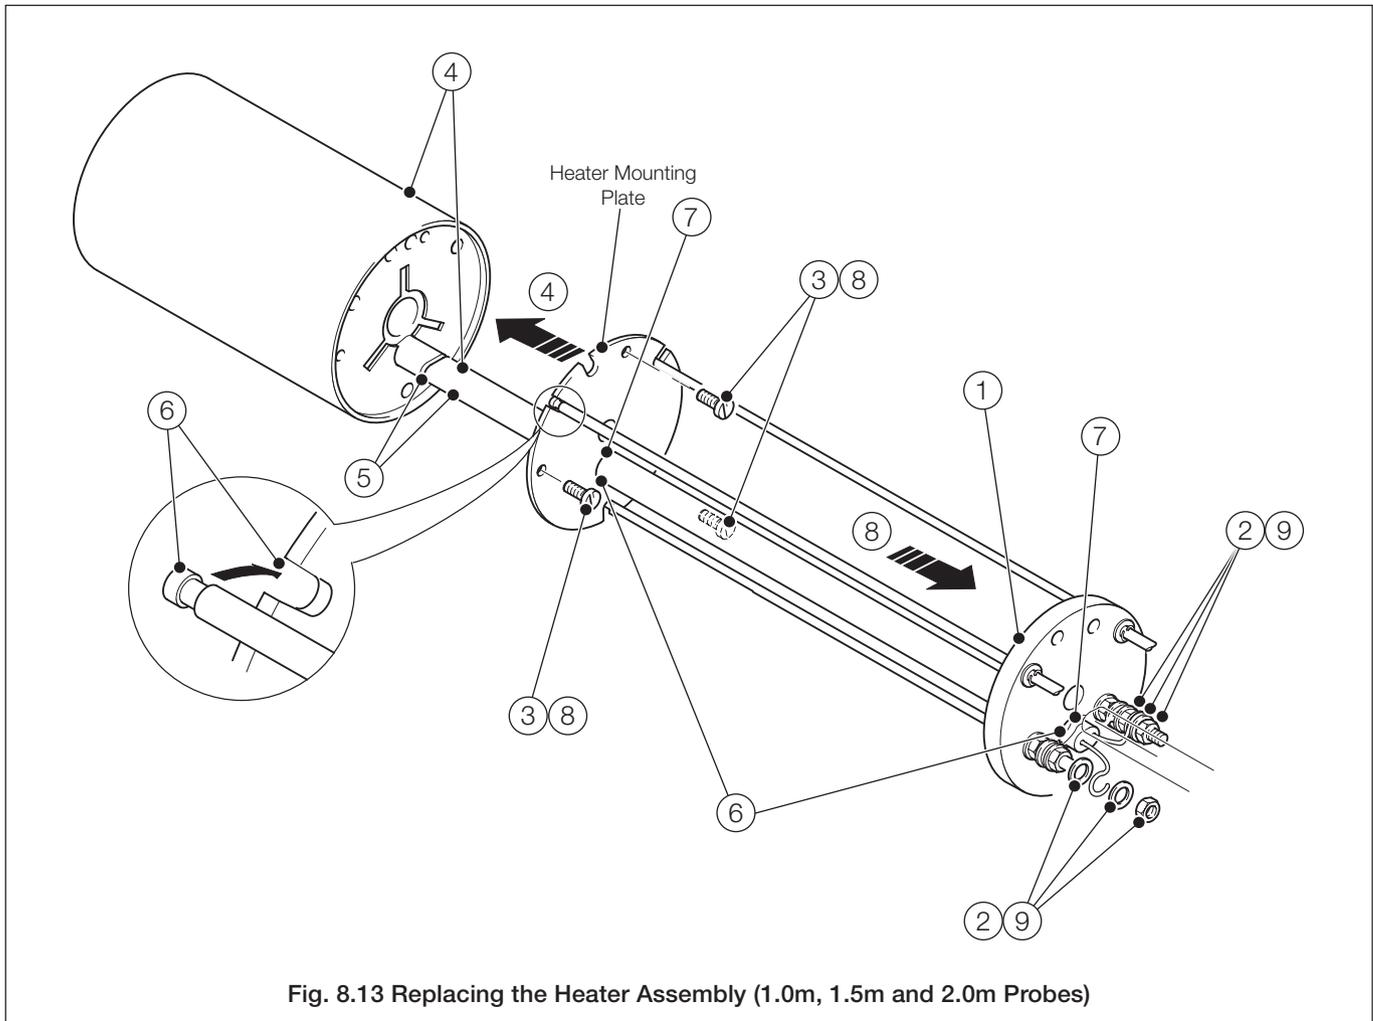

Fig. 8.13 Replacing the Heater Assembly (1.0m, 1.5m and 2.0m Probes)
8.13 Replacing the Heater Assembly (1.0m, 1.5m and 2.0m Probes) – Fig. 8.13